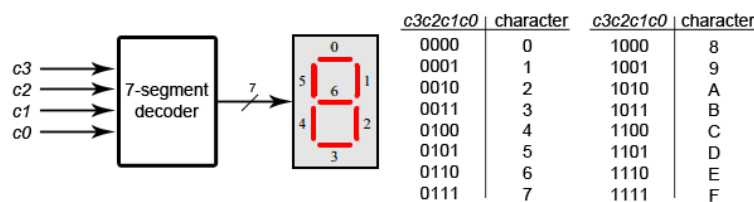

Figure 13: 7 segment display and decoder
The 7-segment display is comprised of 7 LEDs that are arranged in such a way that allows for the creation of the numbers 0-9 and a select few characters with some clever use. Figure 13 shows the block diagram and output table. Your task is to create a 4 input, 7 output decoder that will display a number from 0-9 and the letters A-F. To accomplish this task, you should program the switches SW(0) - SW(3) to act as a 4-bit input to the decoder and output the result across all of the displays, HEX0 - HEX7.